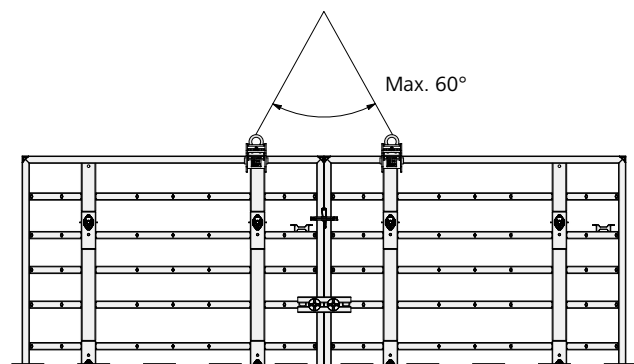

Fig. 39.5
- across the centre beam for vertical panels, if possible (Fig. 39.5)